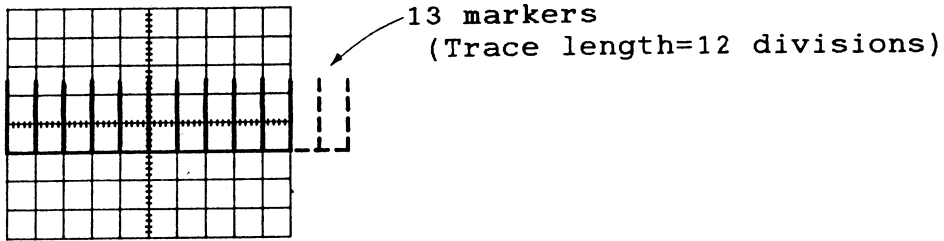

Figure 3-1
- Adjust VR4(T-3561) for trace length of 12 divisions as shown in Figure 3-1.